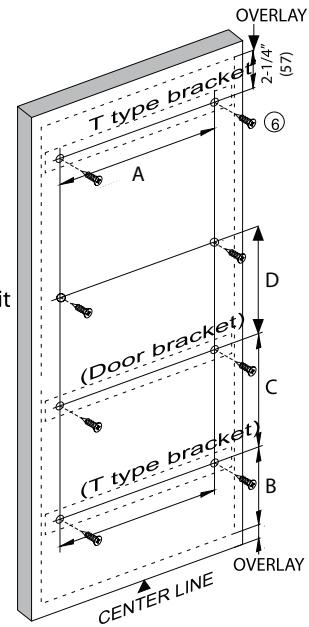

fig. 9
11) To calculate overlay measure the door and then measure the cabinet opening. Overlay = door width minus cabinet opening divided by 2. For example; the door is 12 1/2" wide, the opening is 12". $12\frac{1}{2} - 12 = \frac{1}{2}$ ", then divide by 2. The overlay is 1/4". Refer to figure 9.